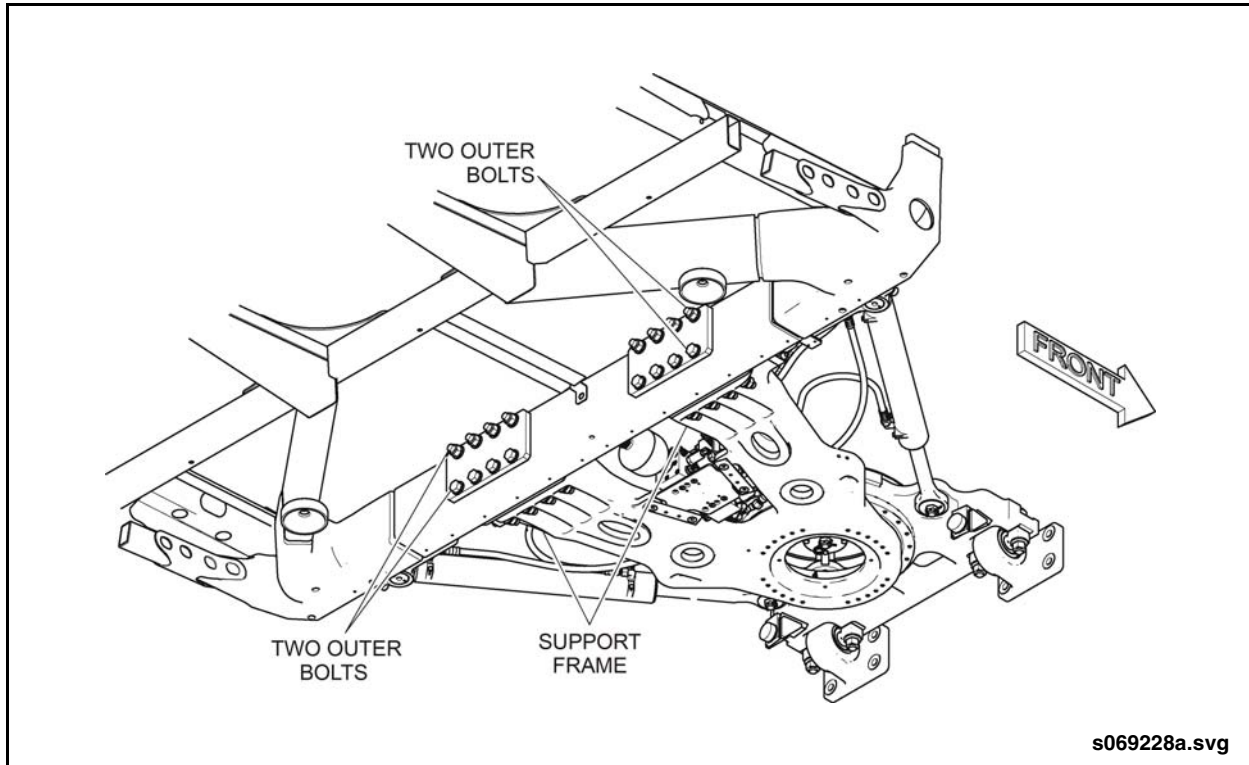

Fig. 1: Support Frame Bolt Replacement
2. Replace the two outer bolts on either side of the support frame every three years or 90,000 miles (145,000 km), whichever occurs first. See “Fig. 1: Support Frame Bolt Replacement” on page 2. Refer to your New Flyer Parts Manual for correct replacement parts. Refer to Section 21 of the New Flyer Service manual for torque specifications and procedures.